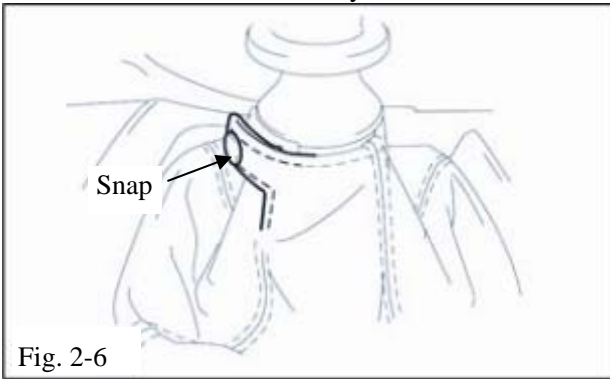

Fig. 2-6
- (2) Release snap on shift lever cover. (Fig. 2-6)